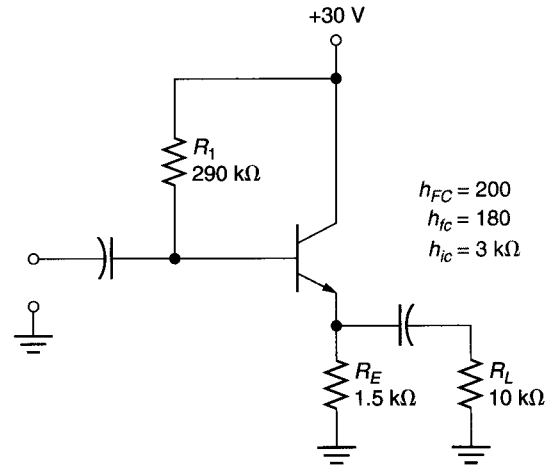

FIGURE 10.25
14. Determine the value of  $Z_{in}$  for the circuit shown in Figure 10.25.